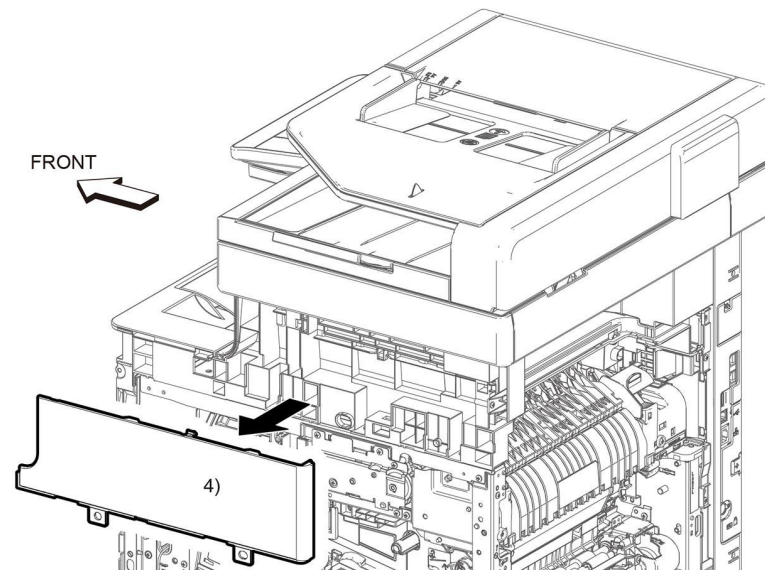

Figure 1 Right side IIT cover removal
4. Remove the Right Side IIT Cover, Figure 1.